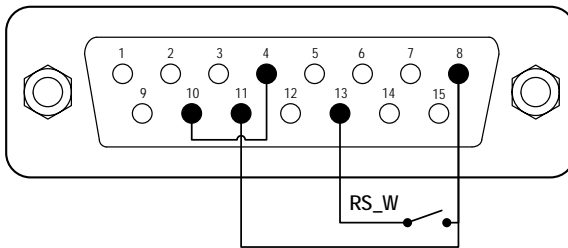
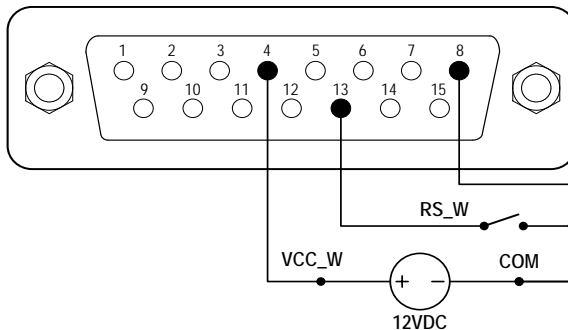

Figure 55. Control Start/Stop with Internal 12V Power Source
Figure 56. Control Start/Stop with External 12V Power Source
- 1) Turn the power off. Wire the DB15 connector as shown in Figure 55 or Figure 56, and connect it to the DB15 port on the rear of the pump.